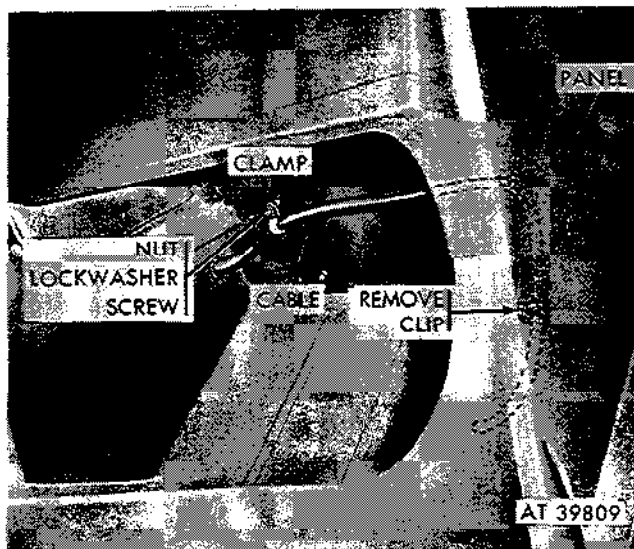

Figure 2-185. Remove snap clips at body panel sill and clamp on firewall (M151 only).
(4) Remove snap clips securing cable to inside of body panel sill (fig. 2-185).
(5) Remove nut and lockwasher from screw securing clamp to firewall. Remove rubber covered clamp from screw on firewall inside passenger compartment. Remove clamp from cable (fig. 2-185 and 2-186).